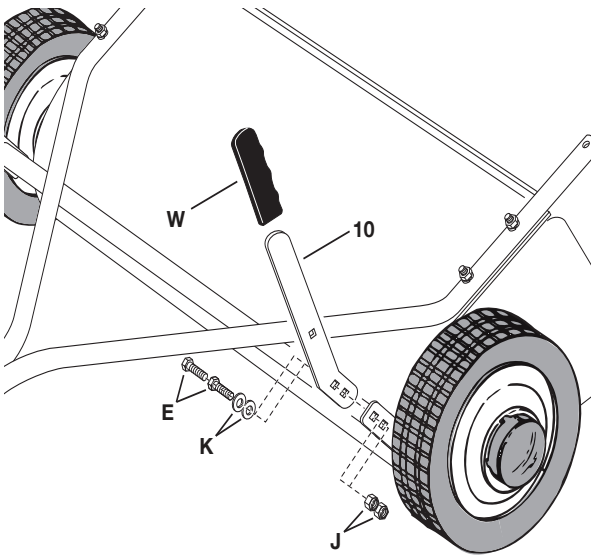

Figure 9
STEP 9: (SEE FIGURE 9)
- Attach the handle (10) to the left side of the sweeper assembly using 5/16-18 x 1" hex bolts (E), 5/16" flat washers (K), and 5/16-18 nylock nuts (J). Securely tighten.
- Slide the height adjustment grip (W) onto the handle (10).